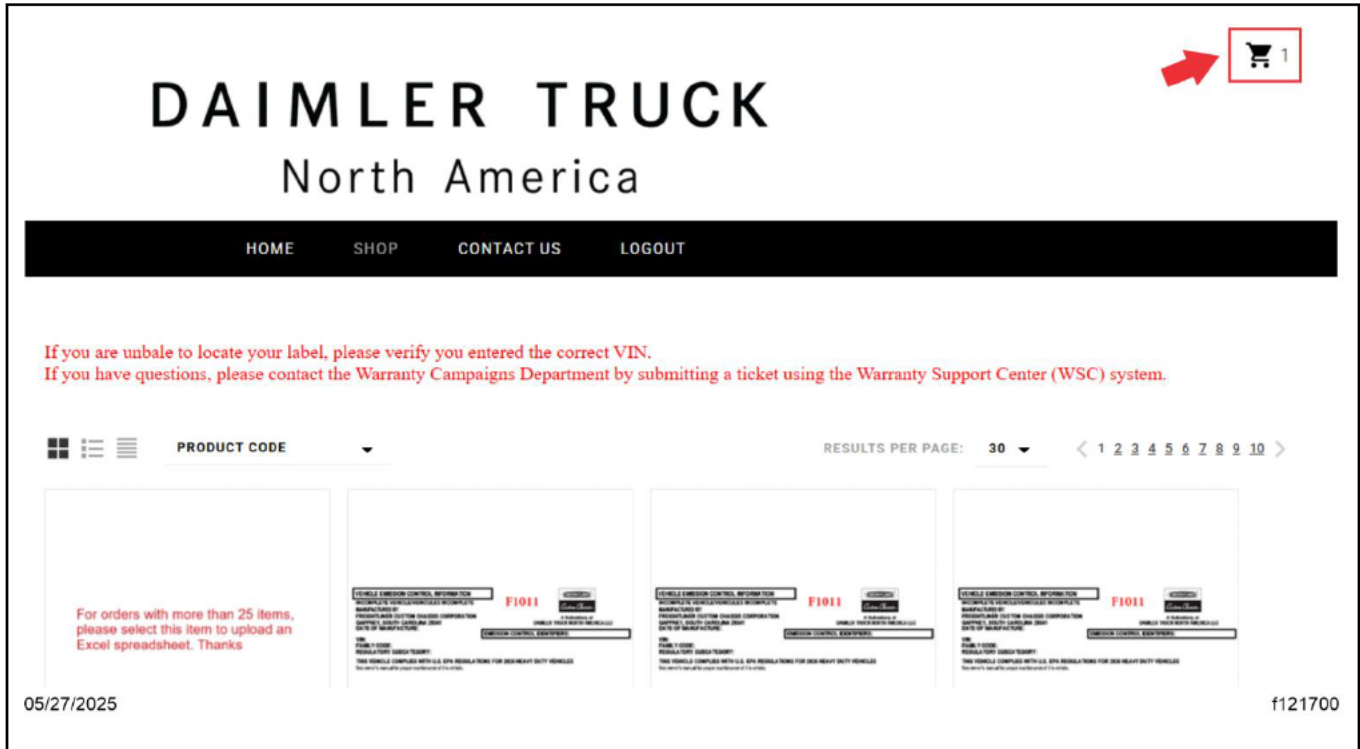

Fig. 7, Go to Cart Button
8. Select the cart button at the top-right of the page. See Fig. 7.